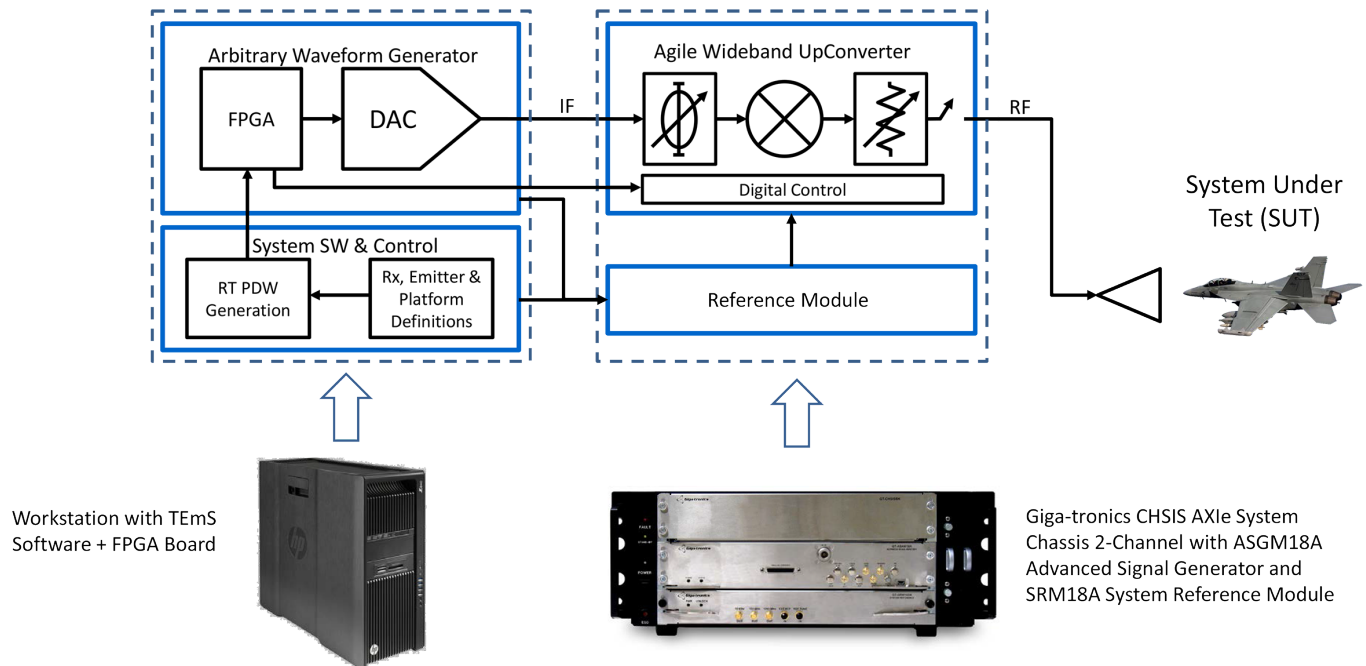

Figure 2 – The functional blocks of the TEmS system.
In the AXLe chassis are functional blocks (Figure 2): the phase-coherent 100 MHz-to-18 GHz phase-coherent upconverter and a digital parallel interface on each of the converter modules that provides real-time control of frequency, phase, and amplitude. A system reference module provides frequency coherence for the upconverter modules inside the AXLe chassis and to external chassis. A PCIe arbitrary waveform generator (AWG) serves as an intermediate frequency (IF) digital waveform